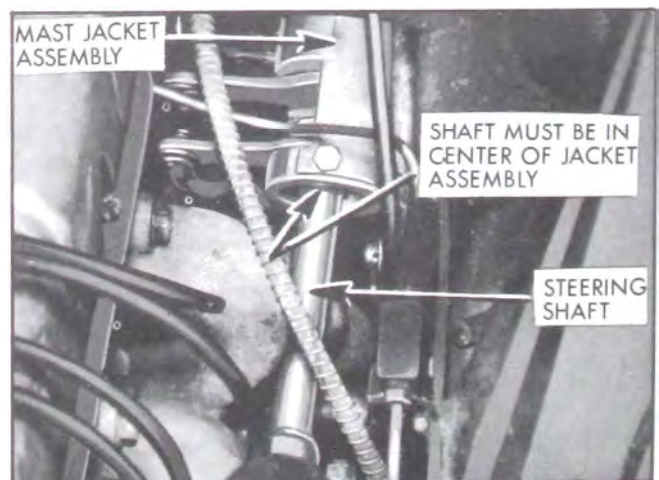

Figure 8-81—Steering Shaft to Mast Jacket Alignment
3. Position mast jacket so steering shaft is in center of lower end of assembly. See Figure 8-81. Attach toe pan cover to cowl. If toe pan cover plate does not line up with attaching holes in cowl when steering shaft is correctly aligned, it will be necessary to drill new holes in cowl.